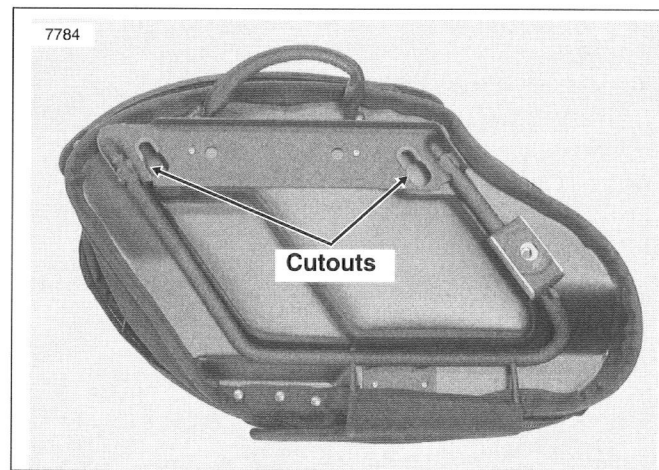
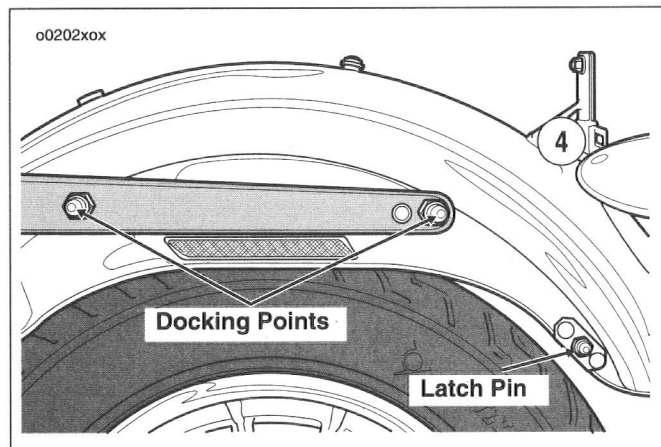

Figure 48. Cutouts
Figure 49. Docking Points/Latch Pin
1. See Figure 48. and Figure 49. Align larger portion of cutouts in saddlebag with docking points located on fender stud.
3. See Figure 49. Align saddlebag keeper with latch pin mounted on rear fender